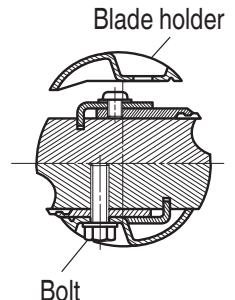

Fig. 15
- (6) As shown in **Fig. 15**, place the blade holder on the completed assembly and fasten it with the three bolts. Ensure that the bolts are securely tightened. Follow the same procedures for the opposite side carbide blade.
- (2) Place the blade holder on the completed assembly, as shown in **Fig. 15**, and fasten it with the three bolts. Ensure that the bolts are securely tightened.
- (3) Turn the cutter block over, and set the opposite side in the same manner.